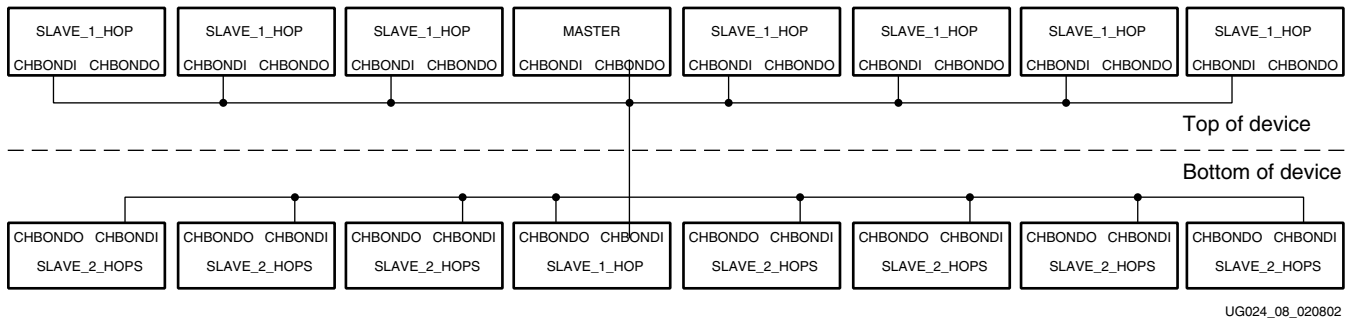

Figure 4-2: 2VP50 Implementation
Figure 4-2 shows the channel bonding mode and linking for a 2VP50, which (optionally) contains more transceivers (16) per chip.